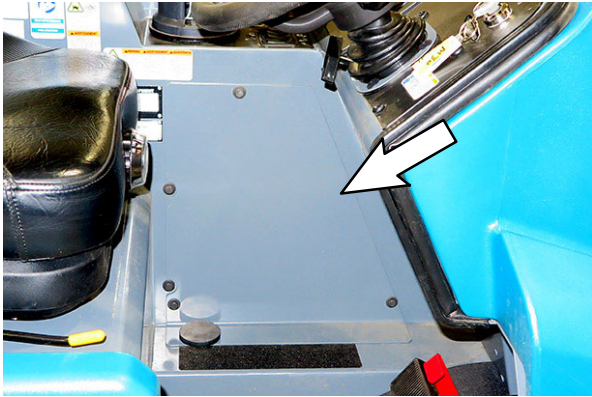

FIG. 1
8. Remove the engine access panel from the operator compartment. Set the access panel and hardware aside. (Fig. 1)